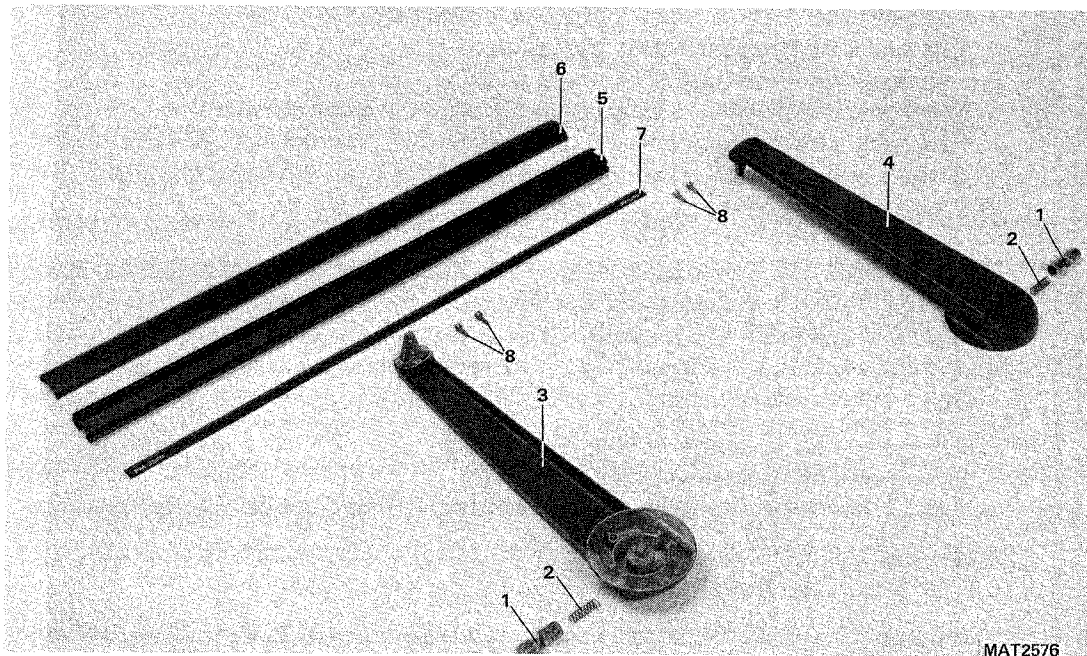

Figure 10.6 Carrying handle.
- Remove the plastic profile cover, (Item 6 in figure 10.6) which is snapped on the carrying profile (5).
- Remove the four screws (8) which fix the carrying profile to the handle arms.
- Depress the locking pins (1) and turn the carrying handle as far as possible to the upper side of the oscilloscope.